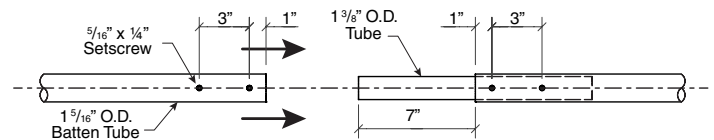

Figure 3
- ⑤ Slide 1 5/8" top and bottom batten tubes into pocket one section at a time, assembling as you go. Use 1 3/8" OD x 14" tube to connect section of batten tube. Splice should be installed so equal portions are inside tube that is being connected (see Fig. 3). Rotate batten to align the pre-drilled and tapped holes in batten. Secure with 5/16" x 1/4" set screws.
- ⑥ Stretch bottom of curtain taut and trim batten tube so that it is approximately 3" shorter than curtain. Make sure tube ends are free of sharp edges and close bottom pocket at each end using lacing cord, zip ties or short bolts (by installer) through grommets.
- ⑦ Roll all the curtain fabric tightly onto 5" drive tube.
- ⑧ Raise the curtain to overhead attachment point using installer supplied temporary winch or block and tackle. Use caution to not damage curtain fabric with ropes, cables, etc. during lifting.
- ⑨ Position 5" drive tube with curtain wrapped around it into the cradle assemblies (see Fig. 3). Prior to removing from winch or block and tackles used to lift drive tube, lower all front rollers and reassemble bolts, washers and locknuts in the lowest hole on front top of cradle assemblies.